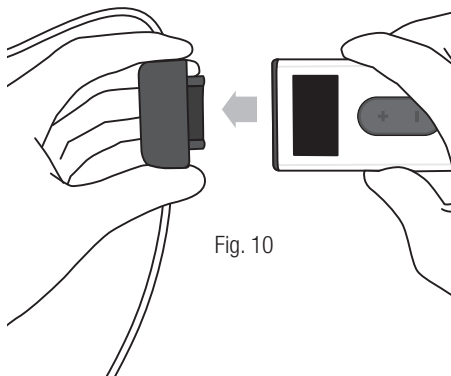

Fig. 10
26. Remove pump head from Passio Handheld Control Unit. (Figure 10)